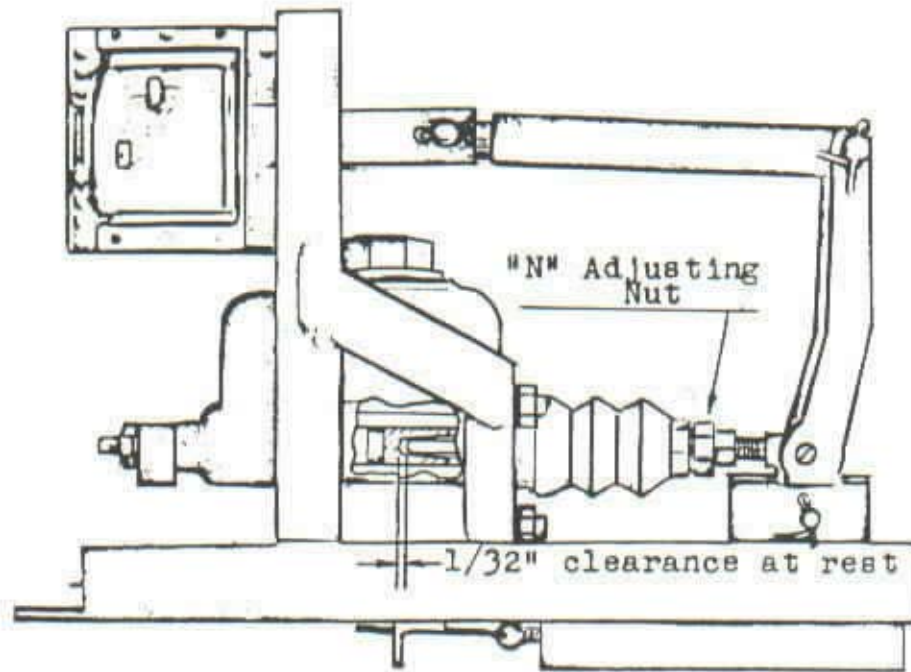

Fig. 3
4. If the master cylinder is solenoid operated, check the movement of the solenoid plunger. It should move freely throughout its full stroke. It must complete a full stroke each time, pulling the connecting arm all the way till the plunger itself is stopped against the solenoid face. When the solenoid is released, there should be a little "play" in the linkage. This is caused by a required clearance of 1/32 to 1/16 in the master cylinder itself. See figure 3, page 7. If this does not exist readjust the clearance by turning nut N.